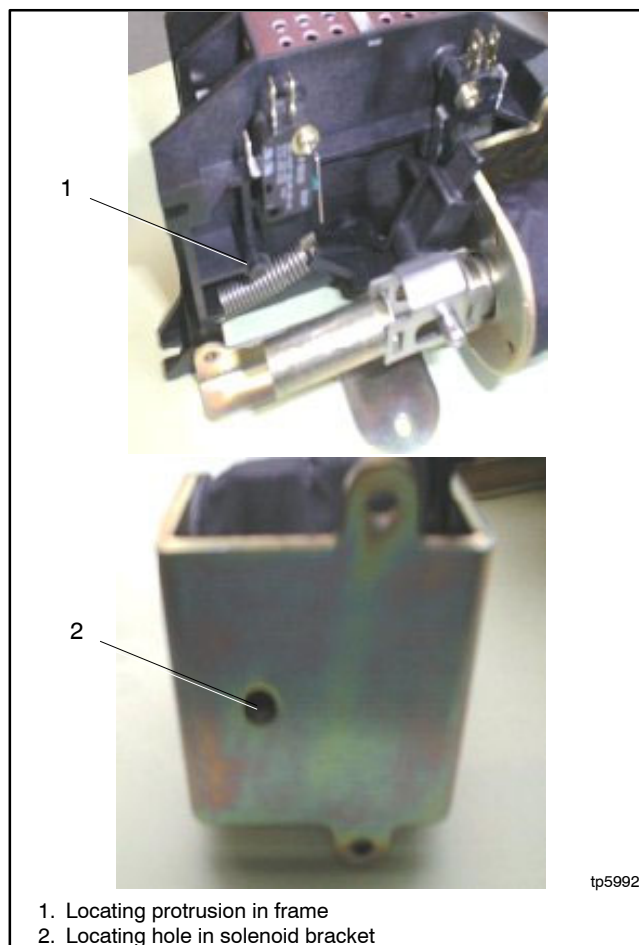

Figure 7-15 Locating the Solenoid Assembly, Typical
2. Align locating hole in the solenoid bracket with the locating protrusion in the frame. See Figure 7-15.